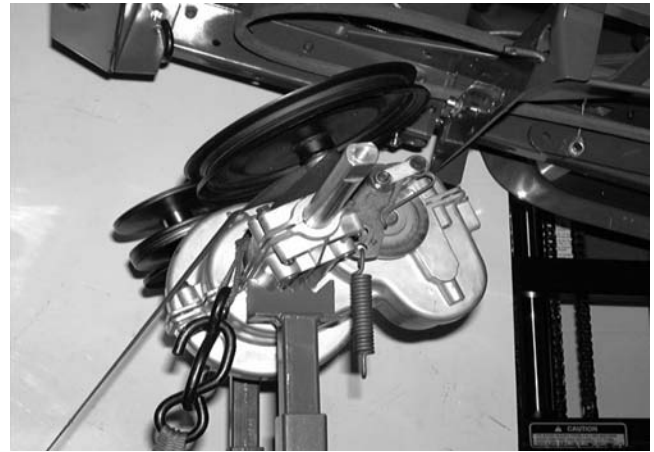

FIGURE 6.
- 18). Slowly lower the transmission from the tractor. See figure 6.